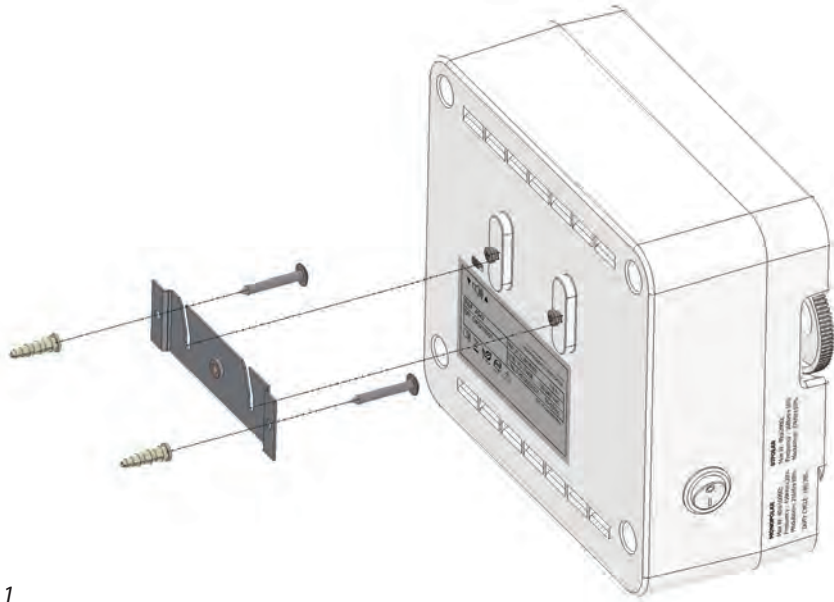

Figure 1
1. Mount the Bovie® DERM 941/942 on the wall or optional mobile stand using the standard mounting kit (see figure 1). Do not operate the unit in the horizontal position, as liquids may spill into unit.